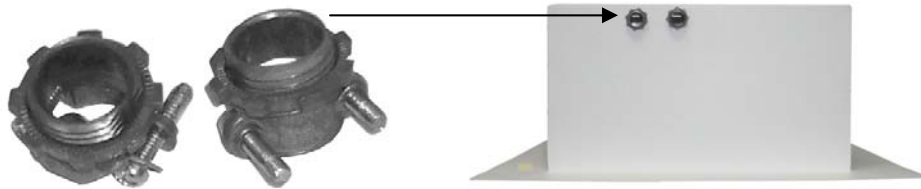

Figure 6
- C. Install the cable conduit glands on the enclosure to secure cable to the in and out of the enclosure once installed (reference Figure 6).